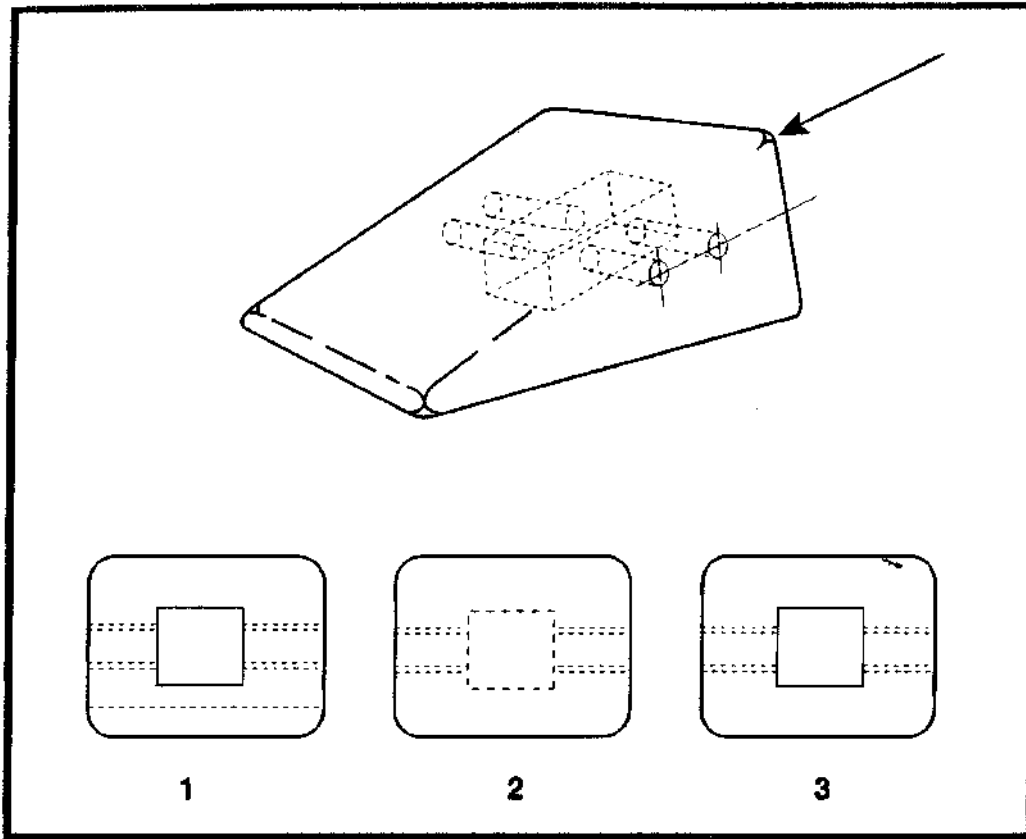

Fig. 3.5. Object Views.
- 20. (Refer to figure 3.5) In the isometric view of a typical aileron balance weight, identify the view indicated by the arrow